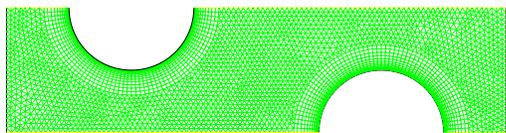

Figure 2.2: Mesh for the Periodic Tube Bank
4. Display the mesh (Figure 2.2).
Quadrilateral cells are used in the regions surrounding the tube walls and triangular cells are used for the rest of the domain, resulting in a hybrid mesh (see Figure 2.2). The quadrilateral cells provide better resolution of the viscous gradients near the tube walls. The remainder of the computational domain is filled with triangular cells for the sake of convenience.